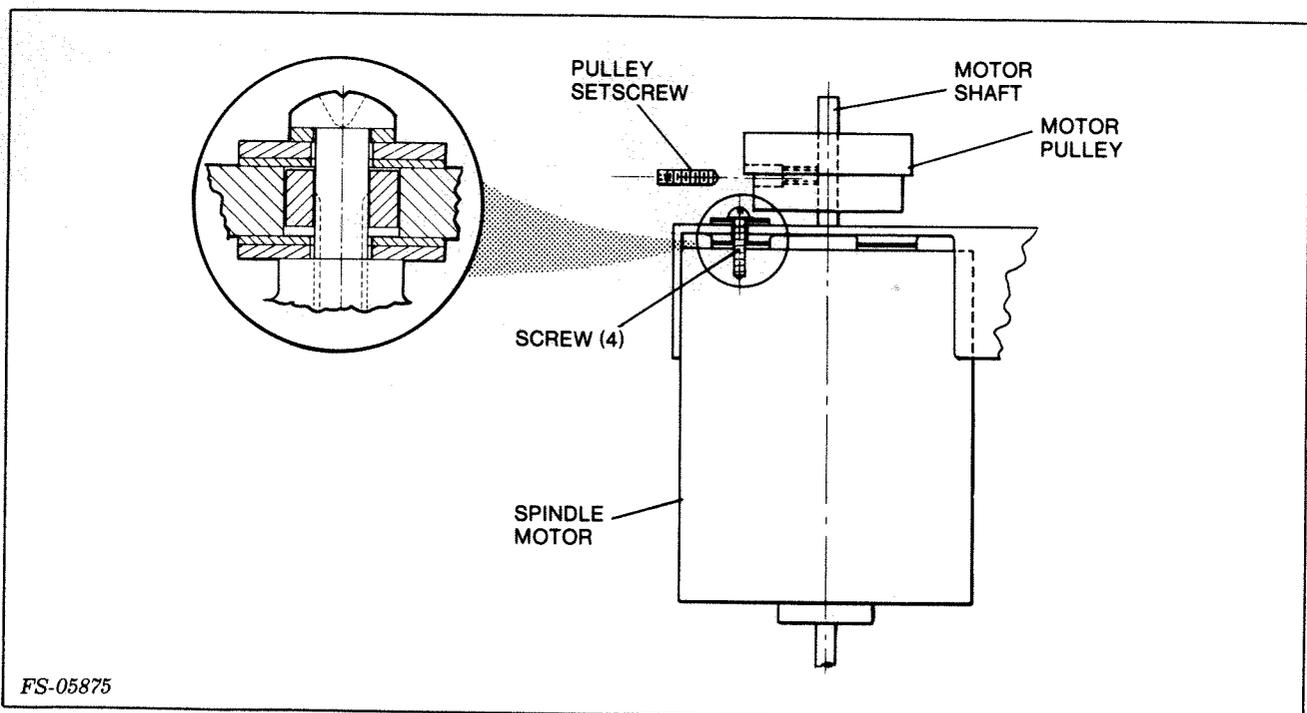

Figure 5-6. Spindle Motor with Motor Pulley
4. Unscrew the pulley setscrew and remove the pulley from the motor shaft (see Figure 5-6).